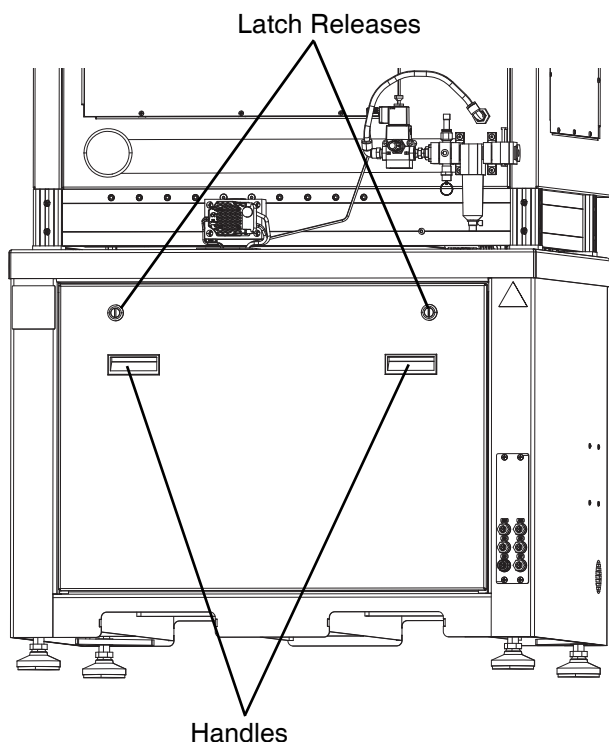

FIG. 17: C-300 Rear Panel
2. Use a large flat head screw driver or similar tool to turn the two latches on the rear panel 1/4 turn counterclockwise. This will release the panel. See **Figure 17**.